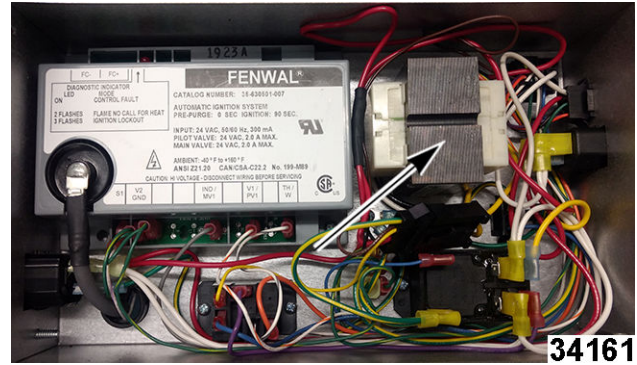

Fig. 76
3. Disconnect transformer assembly wires at harness plug (Fig. 76).